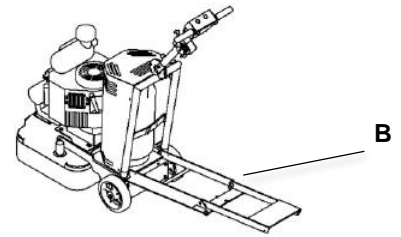

Fig 2
3. Lower and unfold the step down plate (B) by releasing the pull pin (A).
5. Ensure the handle is in its full upright position (Fig 1). Tilt the machine back by unfolding and stepping on the step down plate and pulling down on the handle (Fig 2).